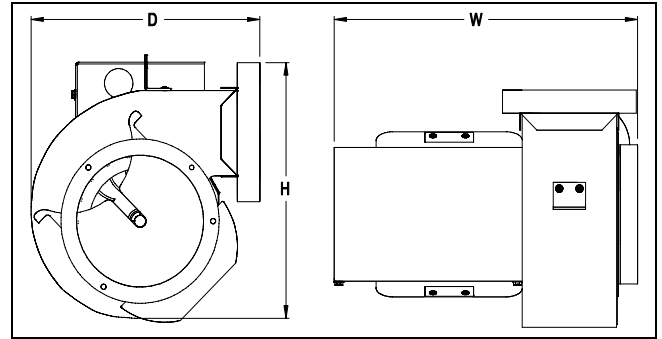

Figure 1
**UNIT SPECIFICATIONS** (See Table 1 and Figure 1)